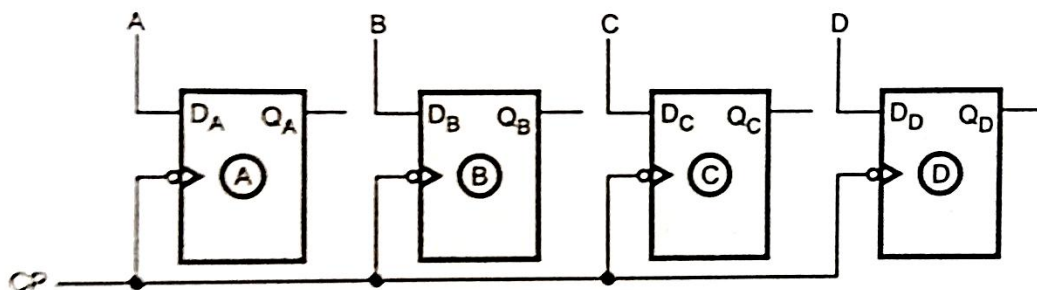

Figure 3.23: Buffer Register
- Figure 3.23 shows the simplest register constructed with four D flip-flops. This register is also called buffer register.